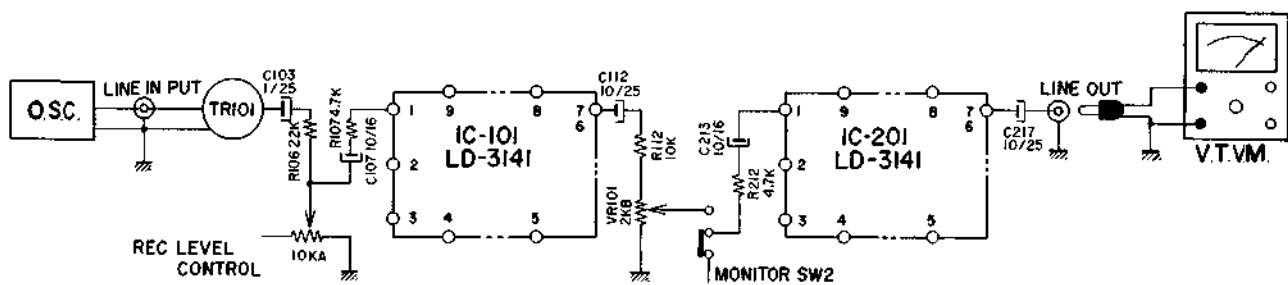

Fig. 4
2. Recording and Playback (See Fig. 4)